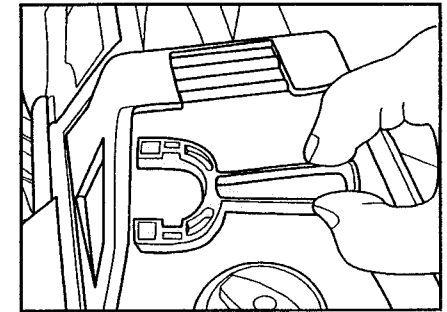

Fig 17
- 1) Pull off the Tire Removal Tool from the Battery door compartment door (**Fig 17**).